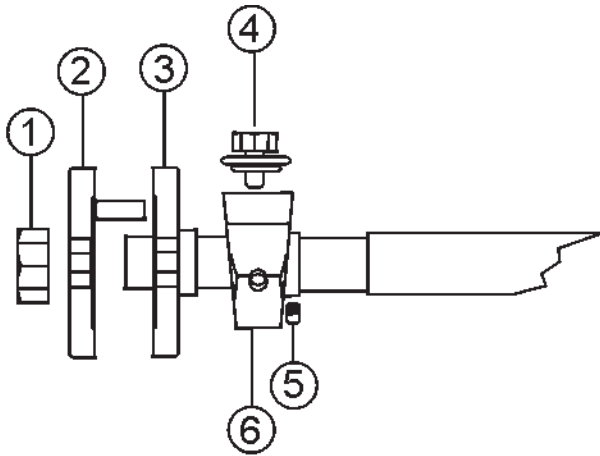
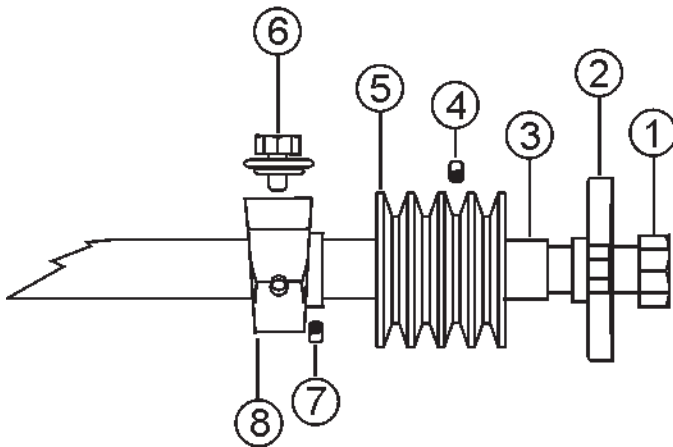

Figure 50. Blade Side Bearing (Right Side)
Figure 51. Pulley Side Bearing (Left Side)
The SP2S13H20A saw is supported by "tapped base lock collar (w/set screw)" self-aligning **Blade Shaft Bearings** (Figures 51 and 52). These heavy duty bearings support the 1-1/4 blade shaft, and have grease (zerk) points conveniently located for service.
Reference Figure 50 & Figure 51 for steps 4-9
4. Remove **Blade Hex Nuts** (Figures 50 & 51, item 1) and **Outside/Inside Blade Flanges** (Figures 50, item 2 & 3)
5. Loosen **set screws** (Figure 51, item 4) and slide **Pulley** (Figure 51, item 5) off the Blade Shaft. Loosen Bearing set screw, remove **Bearing Bolt** (Figure 51, item 6) and slide the **Blade Shaft Bearing** (Figure 51, item 8) off the blade shaft.
6. Loosen **set screws** (Figure 50, item 5), remove **Bearing Bolt** (Figure 50, item 4) and slide the **Blade Shaft Bearing** (Figure 50, item 6) off the blade shaft.